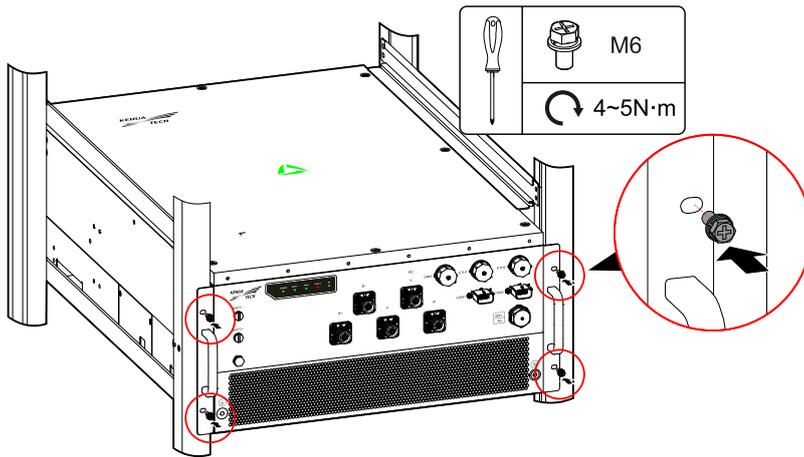

Figure3-10 Fix the PCS
Step 3 Fix the PCS onto the column by four M6\*12, as shown in Figure3-10.